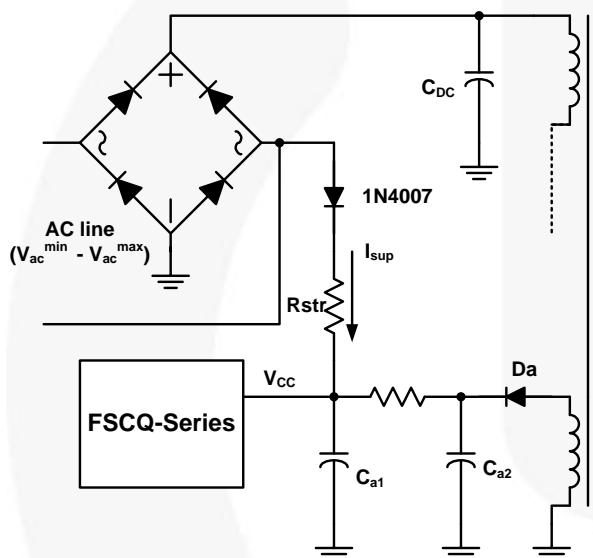
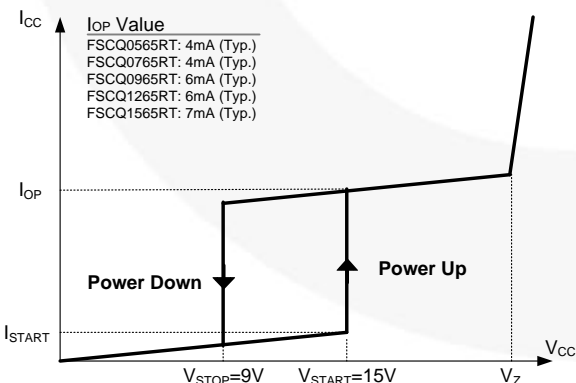

Figure 25. Startup Circuit
Figure 26. Relationship between Operating Supply Current and V_{CC} Voltage
1. Startup: Figure 25 shows the typical startup circuit and the transformer auxiliary winding for the FSCQ series. Before the FSCQ series begins switching, it consumes only startup current (typically 25 μ A). The current supplied from the AC line charges the external capacitor (C_{a1}) that is connected to the V_{CC} pin. When V_{CC} reaches the start voltage of 15 V (V_{START}), the FSCQ series begins switching and its current consumption increases to I_{OP} . Then, the FSCQ series continues normal switching operation and the power required is supplied from the transformer auxiliary winding, unless V_{CC} drops below the stop voltage of 9 V (V_{STOP}). To guarantee stable operation of the control IC, V_{CC} has under-voltage lockout (UVLO) with 6 V hysteresis. Figure 26 shows the relationship between the operating supply current of the FSCQ series and the supply voltage (V_{CC}).